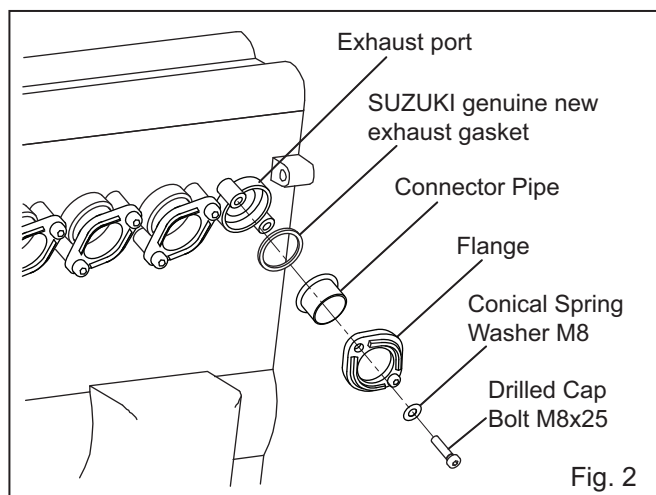

Fig. 2
- 5) Insert SUZUKI genuine new exhaust gasket between exhaust port and Connector Pipe. Then, fix them with Flange and 2 of each Drilled Cap Bolt M8x25 and Conical Spring Washer M8 (See Fig. 2) Follow the same procedure on all 4 exhaust ports. Tighten bolts by hand only at this stage.